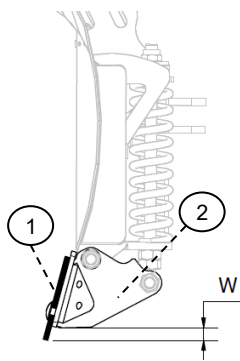

Figure 16
It is important to check wear and tear on the cutting blades daily. There are many factors that affect this. These factors include ploughing speed, substrate, cutting angle, support plates and adjustment of the floating mode. It is therefore important to maintain the distance $W \geq 10 \text{ mm}$ between the lower edge of the cutting blades (1) and the lower edge of the steel holder (2) (see Figure 16).